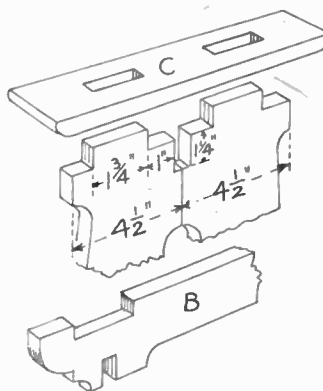

Fig. 4
From the paper pattern, trace the shapes on to the wood and cut round with a coarse fretsaw, not forgetting to include one tenon at the top and another at the bottom of each section. The enlarged details (Figs. 4 and 5) show how the tenons are to be set out. Note here also, how a $\frac{3}{4}$ in. recess is cut at the top of each piece to allow the under rail (B) which is $\frac{3}{4}$ in. thick, to slide down and notch over the upright at each end.
of each upright are very securely held when the tenons at the top and bottom are fitted into their respective mortises in rails (C) and (E) respectively. Rail (B) is shaped up from a piece $3\frac{1}{2}$ ins. wide, the ends being cut with the fretsaw to the simple outline shown, an outline being first made in pencil on paper so as to ensure both ends being alike. A recess is cut down on the top surface of the rail, $1\frac{1}{2}$ ins. in from each end, and $3\frac{1}{2}$ ins. long to receive the cross rails (C). The recess is shown on the rail (B) at Fig. 4. Rails (C) are quite plain pieces, having mortises cut in them to correspond with, and made to fit, the tenons of the uprights (A). The ends of the rails are rounded off on their undersides at back and front as in Fig. 2 and in detail Fig. 4.